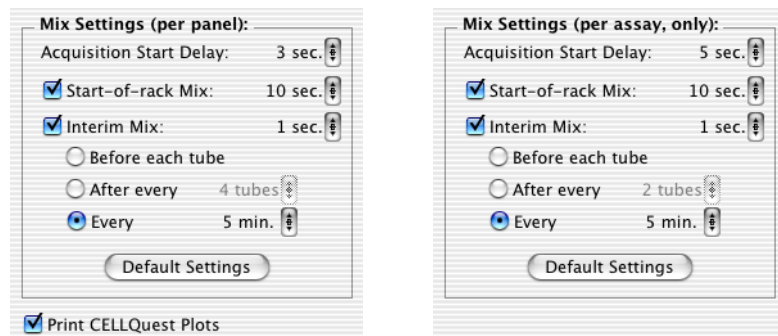

Figure 3-4 Default mix settings for BD CellQuest Pro (left) and BD Multiset (right) software
- Tip** If you are using this feature, deselect the checkbox to Print CellQuest Plots in the Assay Settings dialog (Figure 3-4 on page 49), accessed in the Worklist Manager Set Up view. When the checkbox is selected, the document prints after each sample is run, and only the final printout contains a complete set of data.